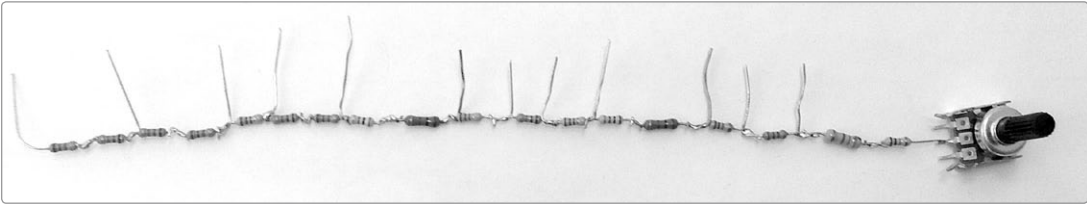
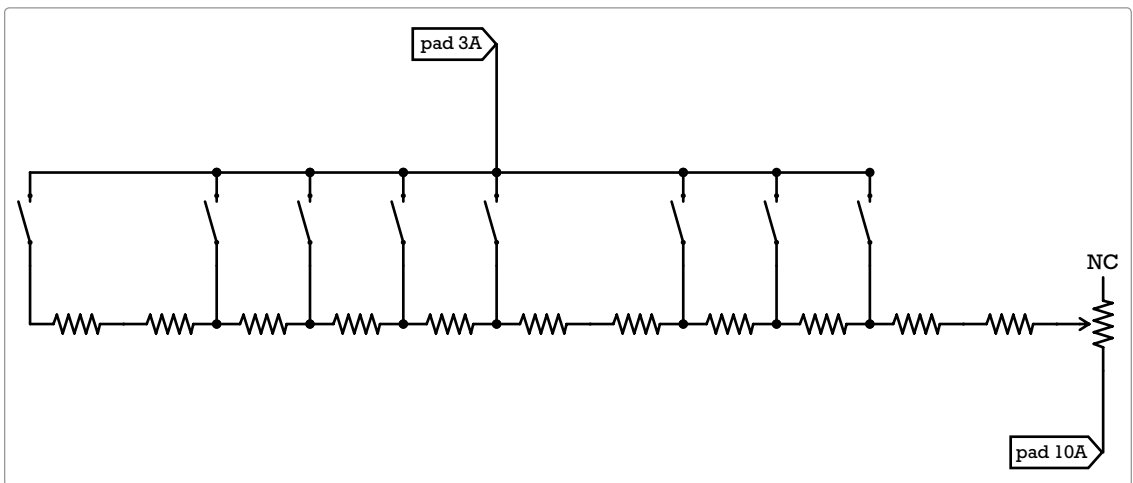

FIGURE 15-19: *A single-octave string resistor ladder for my Single-Chip Space Invader Synth*
FIGURE 15-20: *An abstract circuit diagram of an abridged string resistor ladder keyboard*
That said, there are still lots of ways to build a keyboard for a synth such as this one—it's just that many of these approaches are either pricey or maddeningly futzy. If you're feeling ambitious, I've included the least insane keyboard scheme in Figure 15-19, which shows the guts of a simple one-octave *string resistor ladder keyboard* prototype I whipped up for my Space Invader Synth.
Step 1 Begin with your 18k ohm resistor (brown-gray-orange stripes) and solder a string of about 30 1k ohm resistors to it. As you finish each solder joint, don't trim the excess lead from both resistors. Instead, bend out one leg at each junction, as shown in Figure 15-19. These "rungs" will become important later.
- Step 6** Once you've found your notes, go back to each junction where there's no useable note and trim away the rung as I've done in Figure 15-19. Now each of your remaining rungs should correspond to a recognized note in the chromatic scale.
- Step 7** Finish your string ladder keyboard by adding a small linear pot, such as a 10k ohm, as shown in Figure 15-19. The overall pitch of your keyboard will inevitably drift with the weather, battery power, component age, jostling, and so on. This pot will allow you to retune the keyboard as a whole or to do cool detuning warbly effects as you play. At this point, you can wire pushbutton switches to each rung (see Figure 15-20).